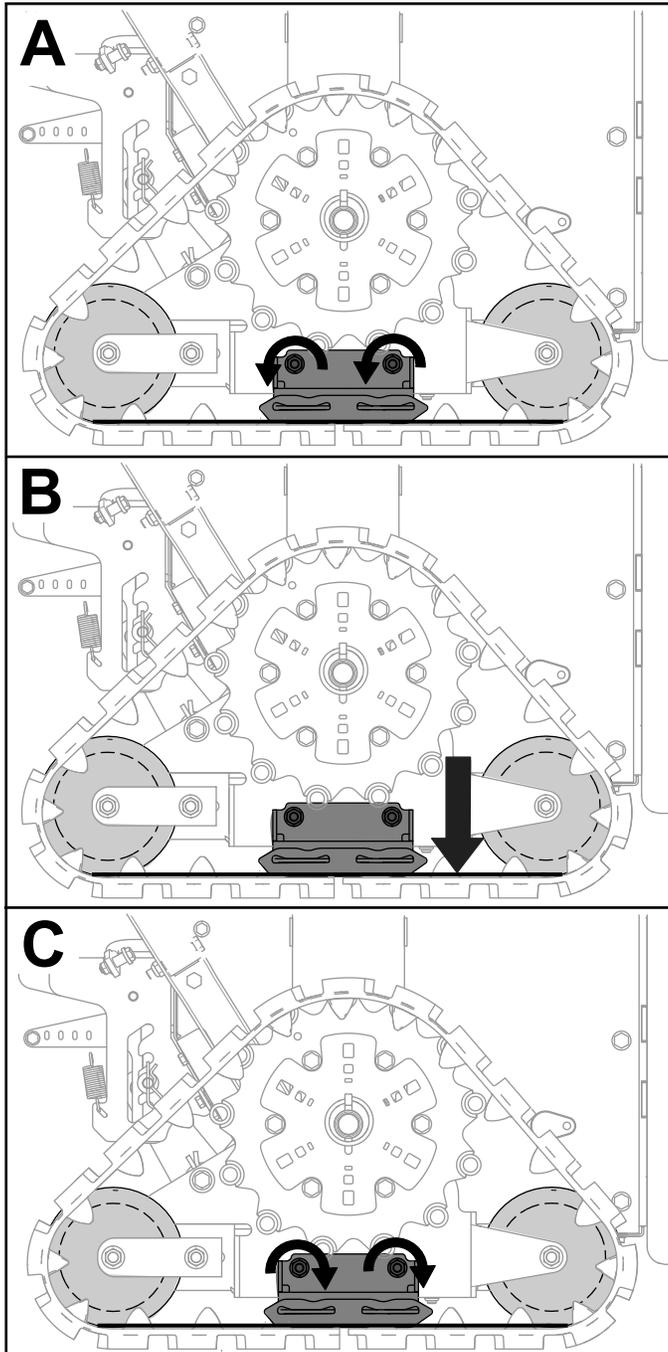

Figure 24
2. Loosen the skid bolts (A of Figure 24).
3. Lower the skid so that it is tangent with the front and rear track rollers (B of Figure 24).
4. Tighten the skid bolts (C of Figure 24).